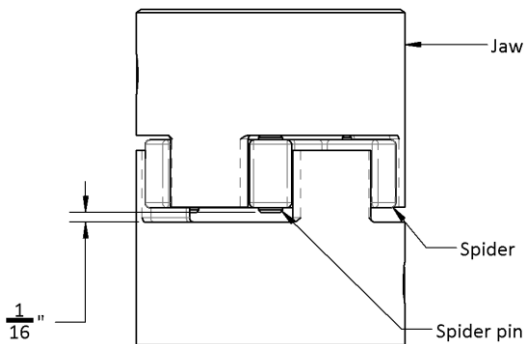

Figure 14 - Jaw coupling installation.
1. Make sure that there is a  $\frac{1}{16}$ " clearance between the spider pins and the coupling jaws (shown in Figure 14 below).